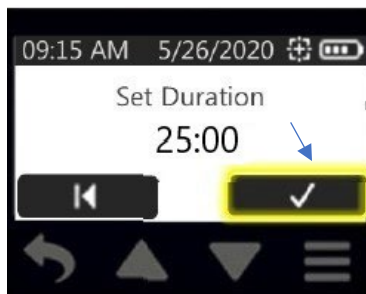

Figure 35. Accept Button
5. Touch check mark to accept new time and return to Main Display. New duration setting will display (Figure 35).